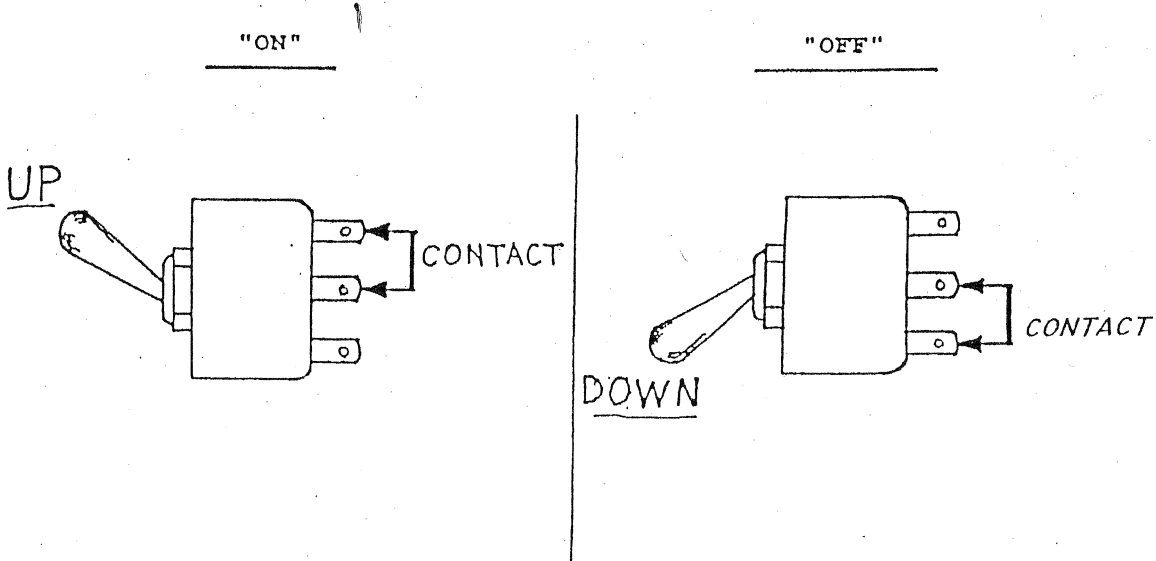

FIGURE 8-3
3. Cross-connect the outer poles of each switch as shown in Fig.8-3 (page 51) using small pieces of insulated wire.
4. Insulate and solder the common (center) poles of the switches in SEQUENCE (see Fig.8-3) to the legs of the respective feed-through terminals - A, \bar{A} , B, \bar{B} , C, \bar{C} , D, and \bar{D} exactly as shown.
5. Mount the four 1K Ω resistors to the PC board. The remaining four connections on the dip pin connector in figure 8- 4, are the resistors connections to the toggle switches on the top of the box. Connect the cable as shown in Fig 8-3 (page).
6. Finally, solder a length of (**BLACK**) wire from the common (Gnd) terminal on the top section of the box to the first switch as shown in Fig.8-3. Then use three short pieces of BLACK wire to connect the other three switches. (see figure 8-3)